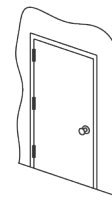

Figure 6
- To set closed position, fully close door. Press and release CLOSE button on board. Flashing ORANGE LED should turn solid. (Figure 6)